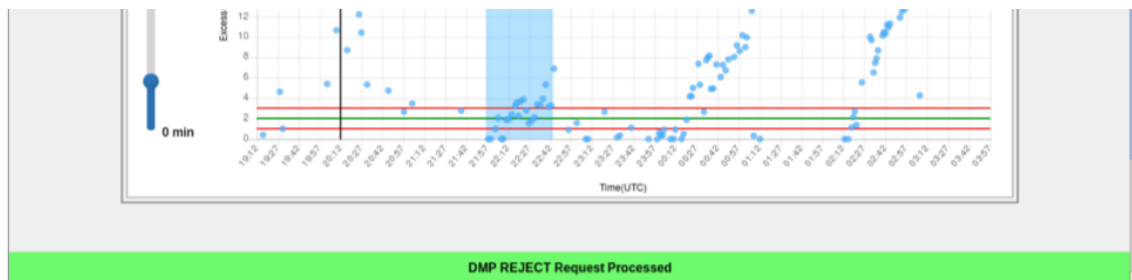

Figure 18. Clicking X under Action caused acknowledgement message to appear at bottom of window.
Step 4: A highlighted message appears at the bottom of the window stating that the SMP was rejected, as shown in Figure 18.